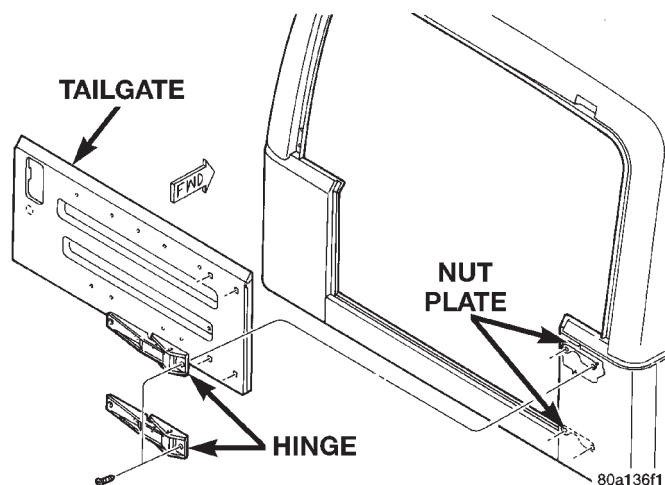

Fig. 83 Tailgate Hinge
- (1) Using a wax pencil, mark the position of the hinge on the body.
- (2) Remove the screws attaching the hinge to the body and tailgate (Fig. 83).
- (3) Separate the hinge from the tailgate.